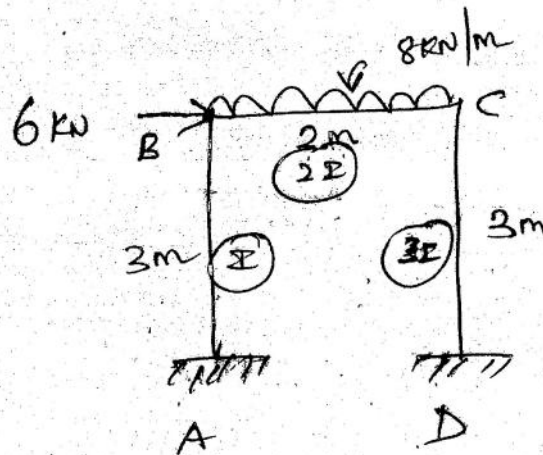

Figure-10.
10. Analyse the portal frame shown in figure-10 by stiffness matrix method.